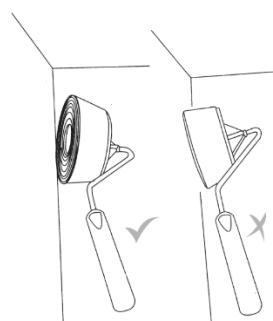

Fig. 9
8. When painting, ensure that the Edger head is tilted at an angle form the adjacent wall. The sponge portion should be seated fully on the painted wall (Fig.9).